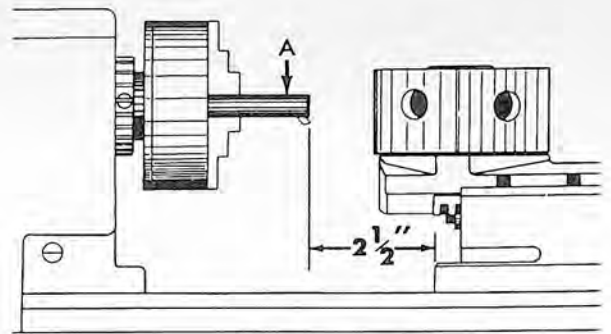

Figure 3
5. Move the turret forward on the lathe bed until the distance between the boring bar cutter (A fig. 3) and the front of the turret base is about 2½". In this location, overhang is at a minimum, and turret can be indexed. Lock turret to lathe bed by tightening clamp plates. (See 8, page 1).